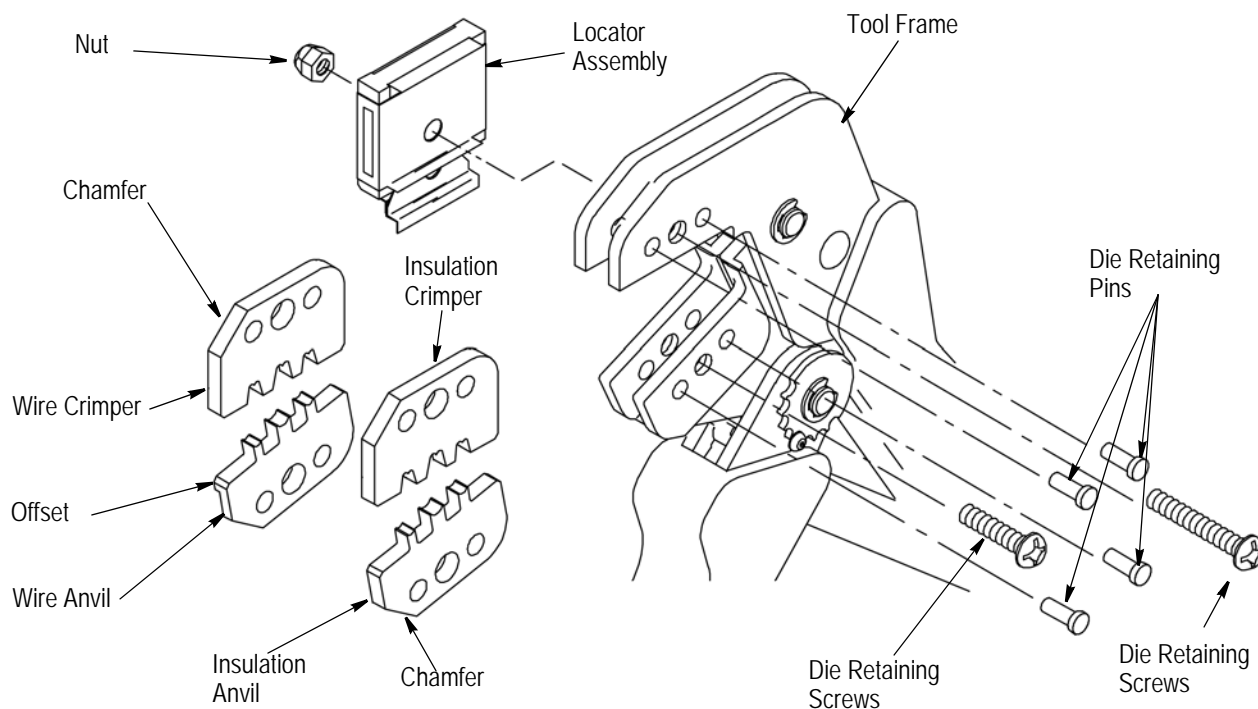

Figure 2
2. DESCRIPTION (Figure 1 and Figure 2)
3. INSTALLATION AND REMOVAL OF DIE SET AND LOCATOR ASSEMBLY (Figure 2)